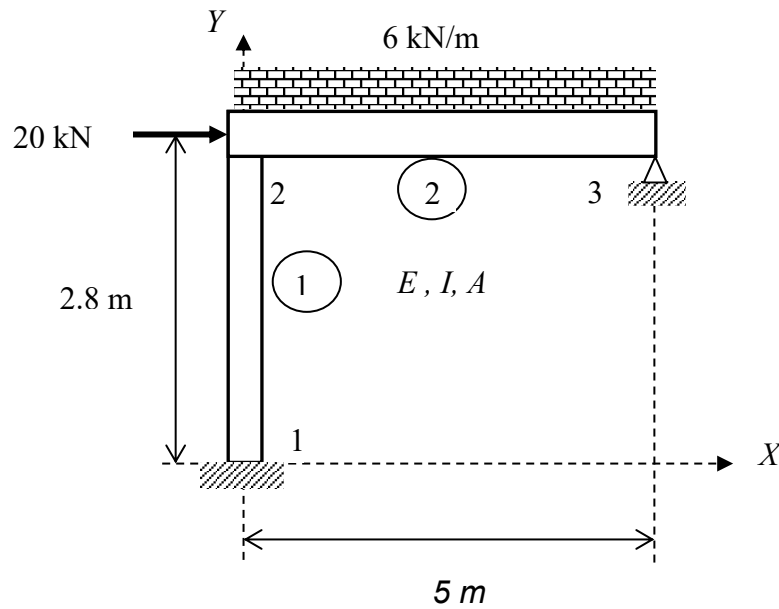

Figure 9
- (c). **Figure 9** shows a frame structures labeled as nodes 1, 2 and 3 are subjected to a nodal force of $P = 20$ kN at node 2 and uniformly distributed load of 6 kN/m. The frame is fixed at node 1 and 3. Given the value of $E = 207$ GPa, $I = 3 \times 10^{-5} \text{ m}^4$ and $A = 0.005 \text{ m}^2$.